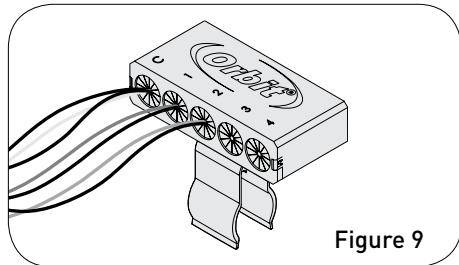

Figure 9
7. Insert each wire nut into the corresponding cavity inside the "Easy Wire" Organizer (Figure 9)